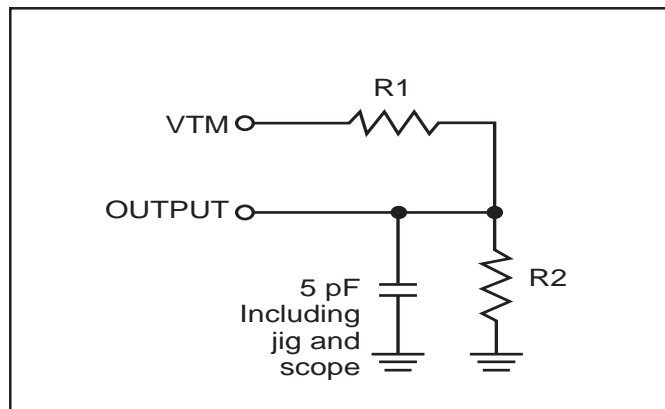

Figure 2
- Tested with the load in Figure 2. Transition is measured ± 500 mV from steady-state voltage. Not 100% tested.
3. Tested with the load in Figure 2. Transition is measured ± 500 mV from steady-state voltage. Not 100% tested.